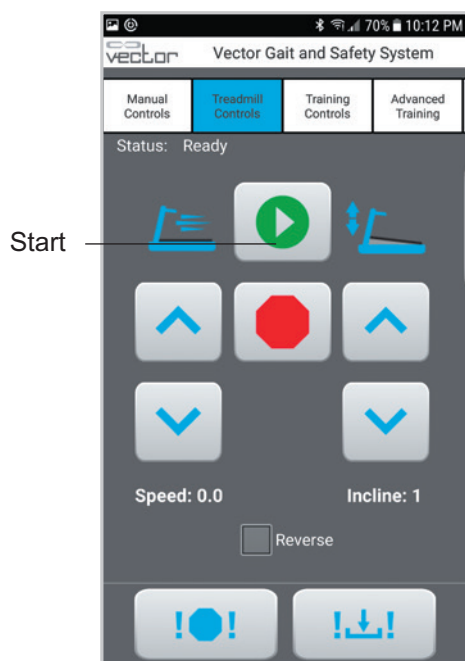

Figure 9-15: Treadmill Controls Screen
4. After connecting the treadmill, the Treadmill Controls screen will be activated, and a training session can be initiated using the Start button. See Figure 9-15.